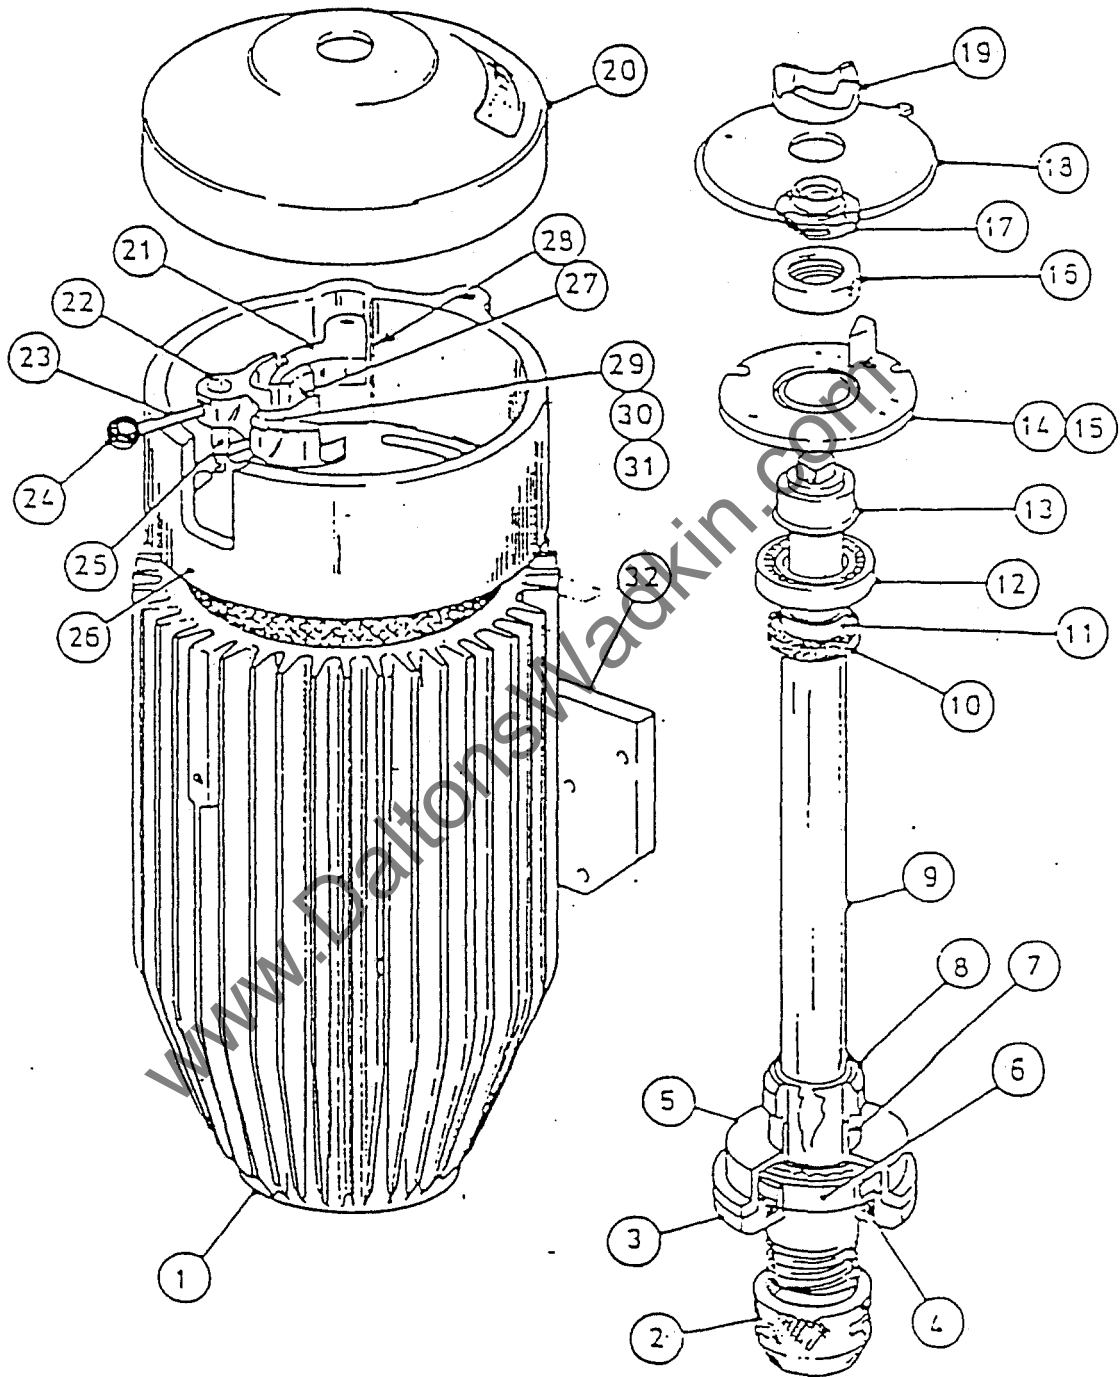

FIG. 22 HIGH FREQUENCY HEAD SERIES 'F'
8.4 UX ROUTER HIGH FREQUENCY HEAD SERIES 'F' PARTS LIST (See Fig. 22)